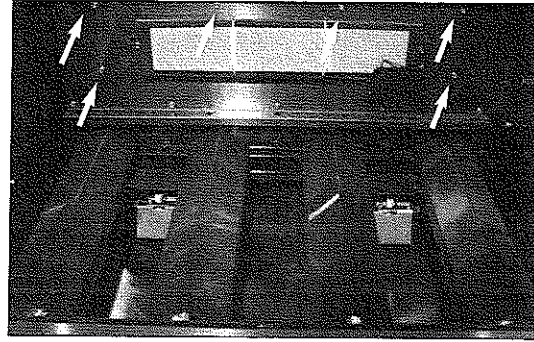

Fig 28
44. Remove the six (6) screws on the inside of the grill that hold the rear infrared cover in place. (See Fig. 28)
48. Place the rear infrared cover back and use the screws removed in step 44 to secure it on the hood support. (See Fig. 28)